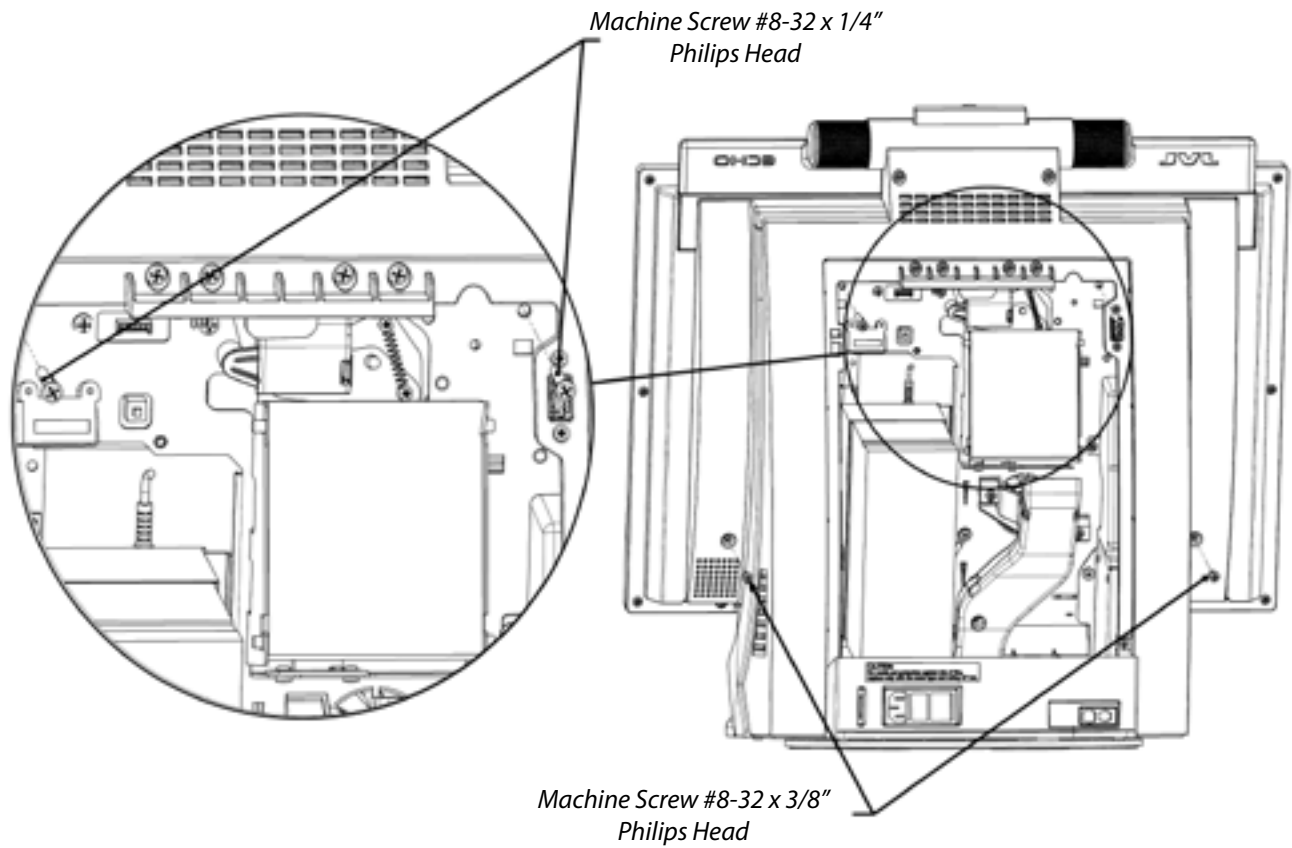
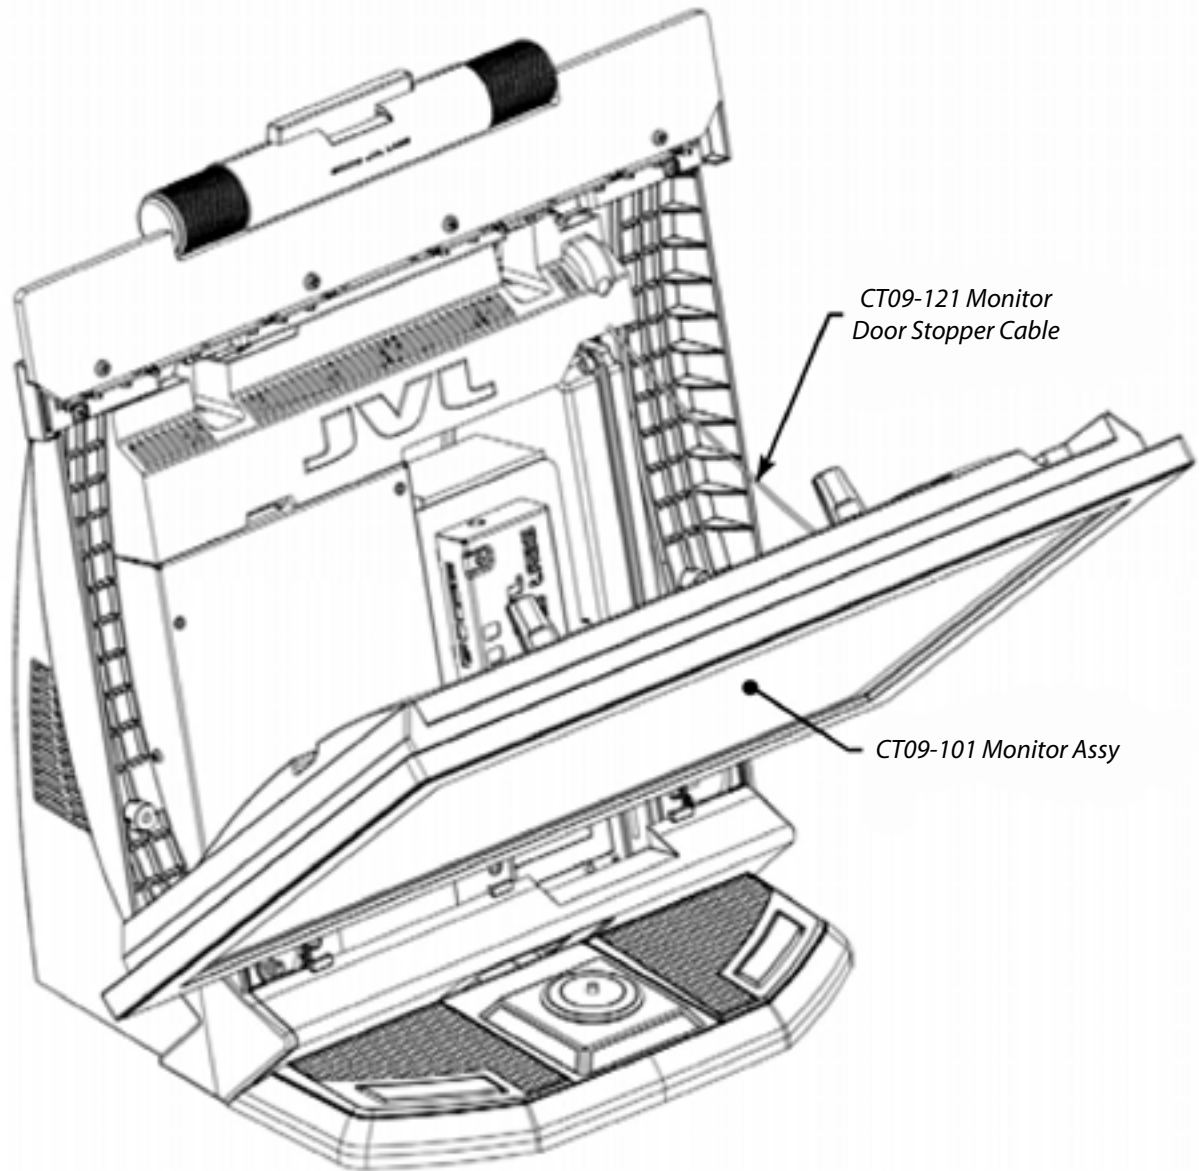

Fig. 3
Fig. 4
(Two- #8-32 x 1-1/4" and two #8-32 x 3/8") and open the monitor to gain access to all electronic components (see Fig. 3 on page 28 and Fig. 4 on page 29 for details).
4. Unscrew two Machine Screws #8-32 x 1-1/4" and open the monitor to gain access to all electronic components (see Fig. 3 on page 28 and Fig. 4 on page 29 for details).